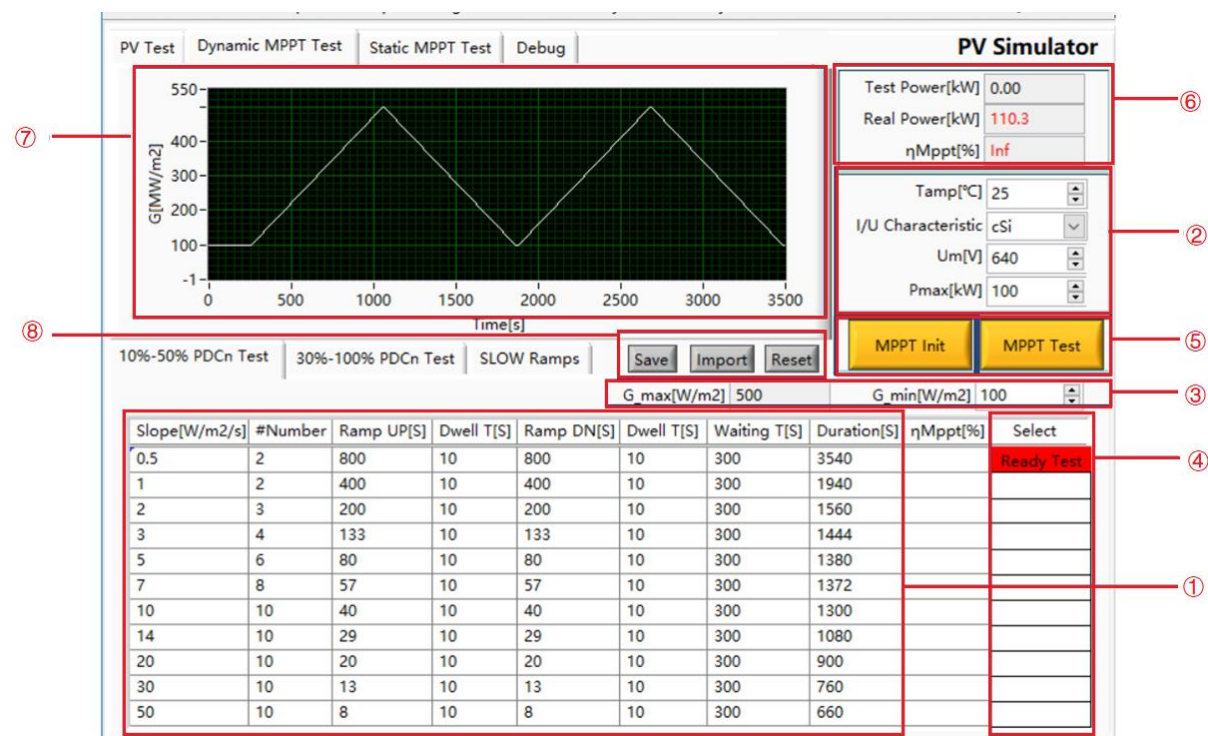

Figure 5-15 Dynamic MPPT test
Set the temperature (Tamp), I/U characteristics (crystalline silicon/thin film mode), Um, Pmax, initial irradiance and other parameters (Figure 5-15②③), click to switch the state of the test line to the
ready state (Figure5-15④) , Click "Initialize button" (MPPT Init) → "MPPT Test button" (MPPT Test) (Figure 5-15⑤), the software will automatically calculate and display the real-time parameters during the test (Figure5-15⑥), and generate a simulation curve in the waveform display area (Figure 5-15⑦). After starting the MPPT test, the remaining test time will be displayed according to the test progress, and the corresponding status will be displayed; after each line is executed, the dynamic maximum power point tracking efficiency η_{Mppt} will be calculated. After the test is completed or the test is stopped, the MPPT test parameters in the table return to the initial state.